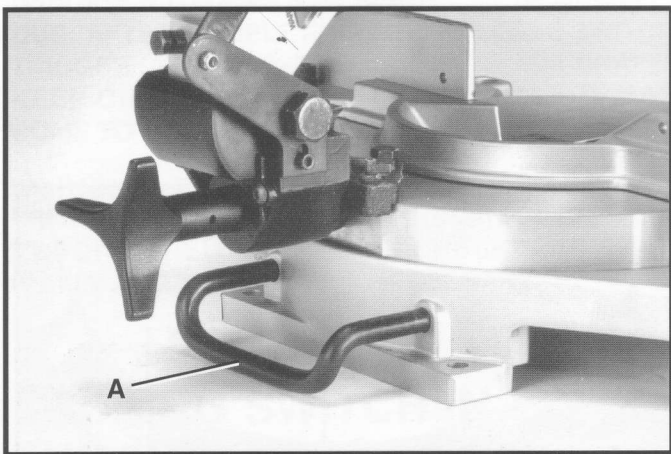

Fig. 19
A rear support bar (A) Fig. 19, is provided to prevent the miter saw from tipping to the rear when the cutting-head is returned to the up position after a cut has been made. For maximum support the bar (A) should be pulled out as far as possible.